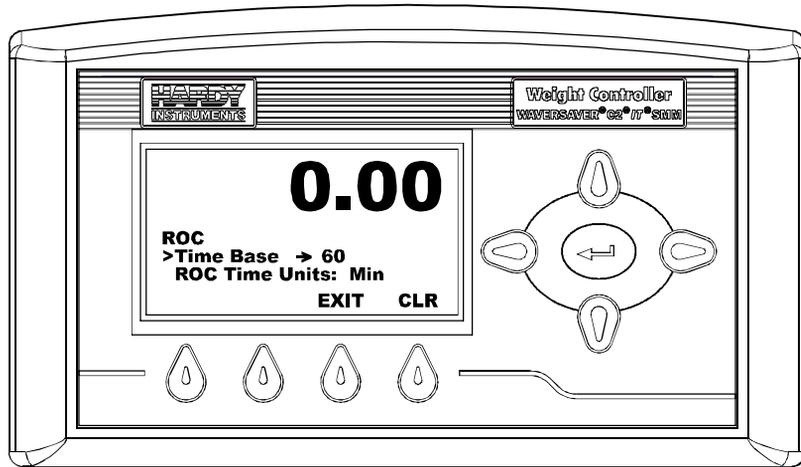

FIG. 140 RATE OF CHANGE/SETTING TIME BASE
Step 7. Press the Enter button. The Rate of Change Menu appears with the cursor in front of Time Base. (See Fig. 140)